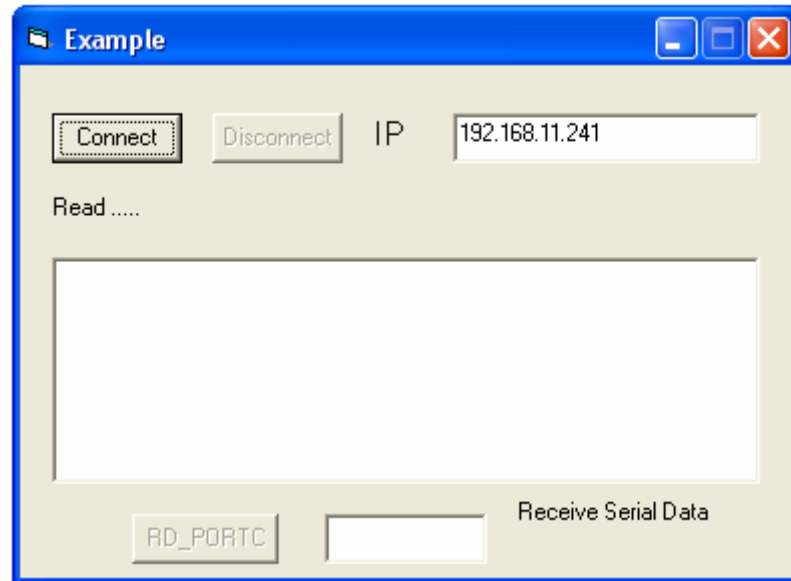

Figure 4-2 Show Example Application Dialog
1) Click “Connect” button to connect to Ethernet IO Board. If connection success, it show Connection established message “*Connection established with Ethernet IO Board: (IP of Ethernet IO)*” on status bar. And if connection unsuccessful, it shows message “connection failed”. Show in figure 4-2.